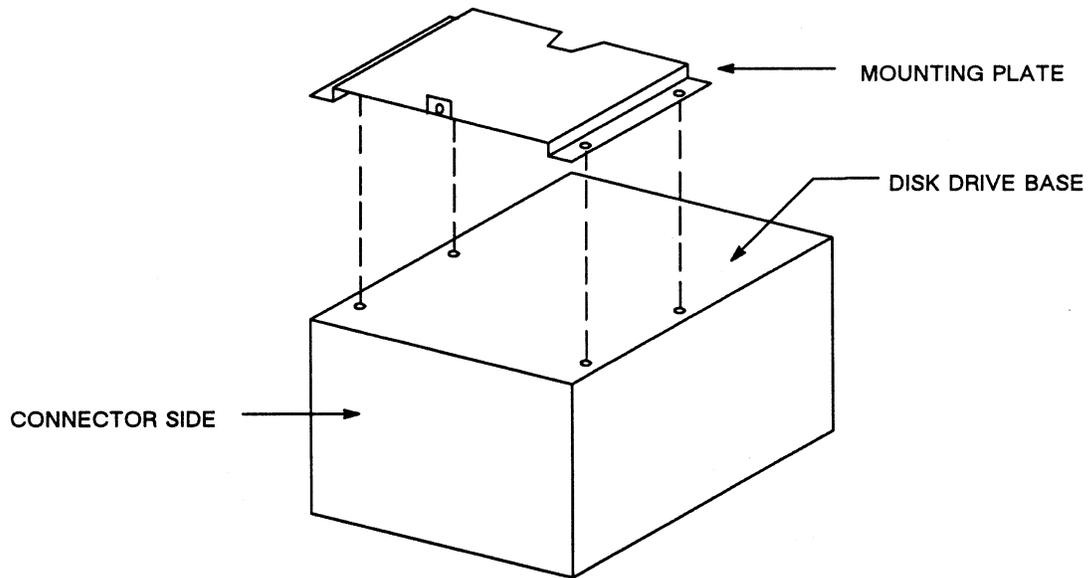

Figure 7-4. 85MB Disk Drive
3. Fasten the mounting plate (shipped with the disk drive) onto the base of the disk drive, which contains the printed circuit board. See Figure 7-4. Tighten all four screws that have corresponding holes in the disk drive frame.
Figure 7-4 shows an 85MB disk drive with its mounting plate.